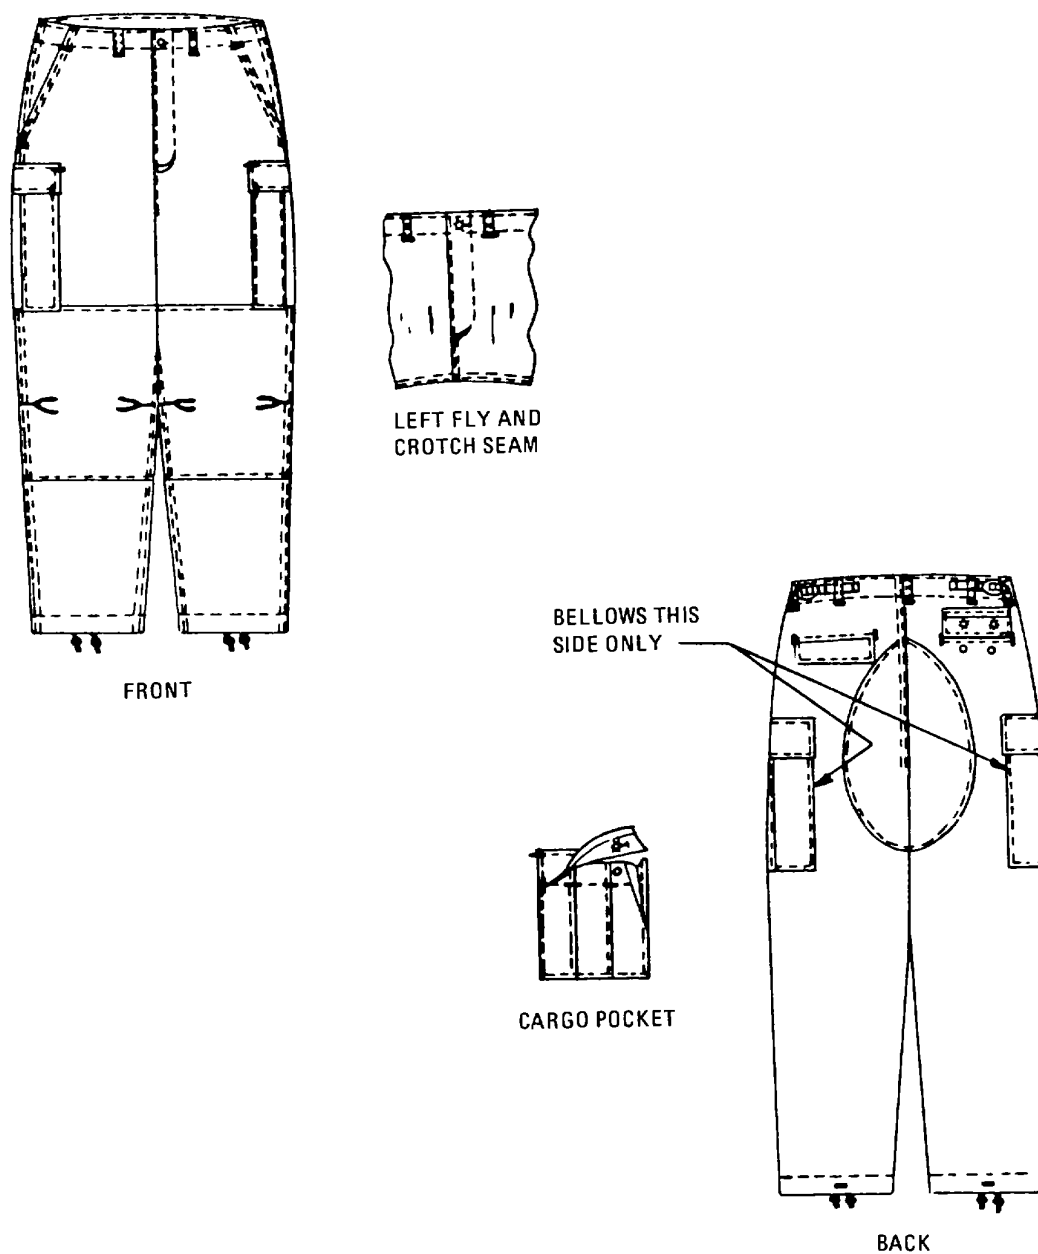

Figure 15-2. Combat Camouflage Pattern Trousers
- (1) Both Type I - Temperate Camouflage and Type II - Desert Day Camouflage Trousers are fabricated from cotton and nylon twill cloth. The trousers have a grown-on waistband with two buckle waist adjustment tabs, two side and hip inside hanging pockets two bellows-type pockets, a button front fly, seat patch, knee patches and leg hem drawcords. The cargo pockets have one sewn eyelet located at the bottom back end of the pocket. The hip and cargo pocket flaps are closed with buttons and buttonholes concealed within the flaps. (See figure 15-2 and tables 15-4 and 15-5.)
- (2) The Hot Weather Camouflage Trousers are fabricated from cotton, Type III ripstop poplin cloth. The trousers are of the same design and construction as the temperate trousers (See figure 15-2 and table 15-6.)